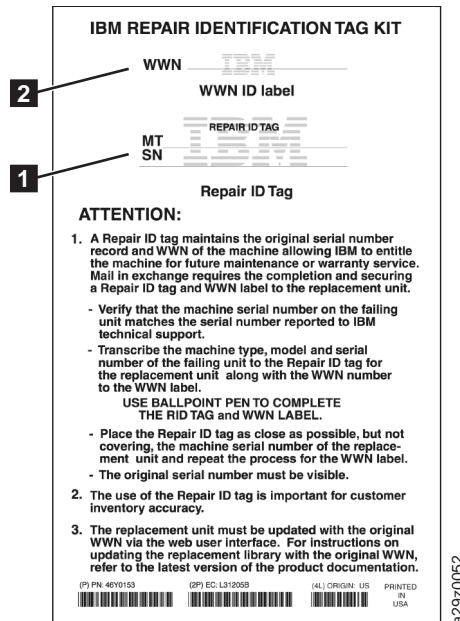

Figure 157. RID tag
1. Copy the machine type (MT) and serial number (SN) from the old library onto the Repair ID tag (**1** in Figure 157).
2. Copy the worldwide name (WWN) from the old library onto the WWN ID label (**2** in Figure 157).